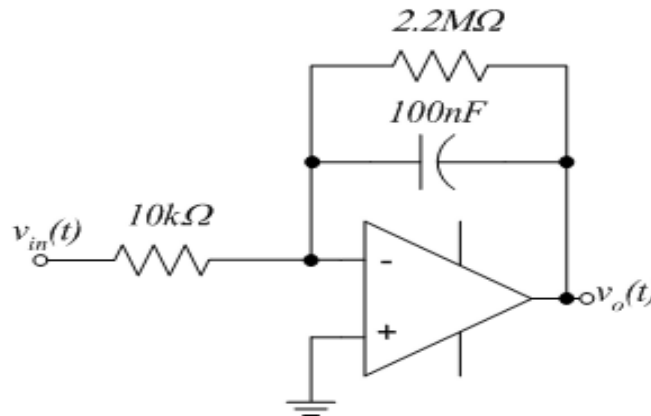

Fig.2: Integrator Circuit
1. Wire up the practical op-amp integrator shown in figure 2 using your 741 op-amp.
The ideal differentiator is inherently unstable in practice due to the presence of some high frequency noise in every electronic system. An ideal differentiator would amplify this small noise. For instance, if $v_{noise} = A\sin(\omega t)$ is differentiated, the output would be $v_{out} = A\omega\cos(\omega t)$. Even if $A = 1mV$, when $\omega = 2\pi(10MHz)$ v_{out} would have an amplitude of 63V! To circumvent this problem, it is traditional to include a series resistor at the input and a parallel capacitor across the feedback resistor as shown in figure 2, converting the differentiator to an integrator at high frequencies for filtering.